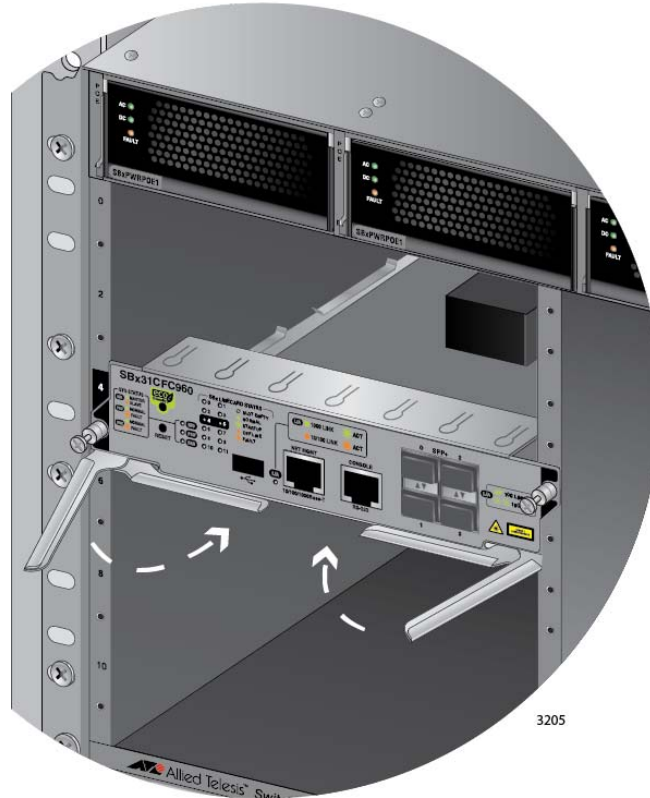

Figure 76. Closing the Locking Levers on the AT-SBx31CFC960 Controller Fabric Card
8. When you feel the card make contact with the connector on the backplane of the chassis, carefully close the two locking levers on the front panel to secure the card in the chassis. Refer to Figure 76 on page 142.